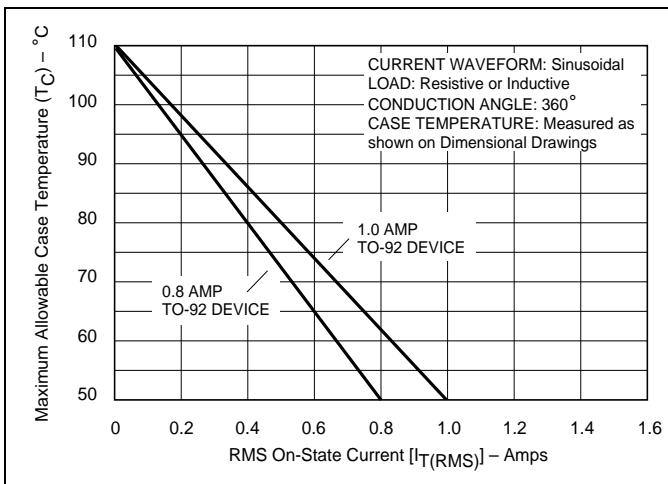

Figure 1.2 Maximum Allowable Case Temperature vs On-State Current (0.8 and 1.0 Amp)
- See Figures 1.2 and 1.3 for maximum allowable case temperature at maximum rated current.